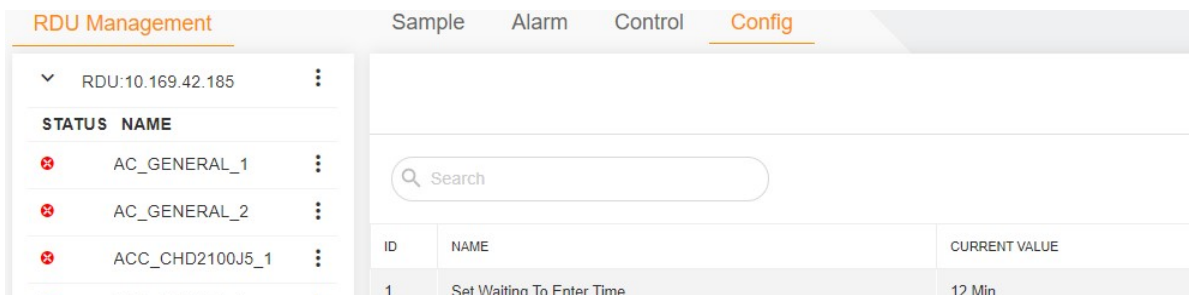

Figure 6-37 Editing the configuration
1. Click on the rightmost of the configuration to be edited, and select **EDIT**, as shown in Figure 6-37.